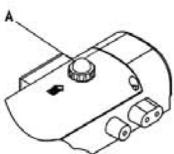

图5(Fig. 5)
(1) 润滑油的注入(图5&6)
1.Filling lubricant oil :(Fig.5&6)